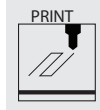

Fig. 22
5. To install the Print Wiper, insert the wiper's two key holes onto the two rods located at the back, right side of printer. The wiper's white plastic piece and spring should be facing the front. (Fig. 22)